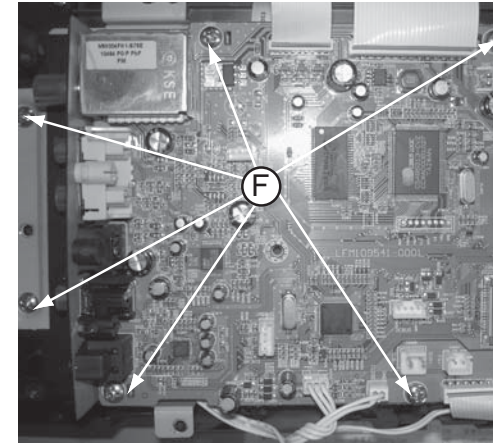

Figure 6
- 1) Loosen 6 screws "F" on the top of main board as shown in figure 6.